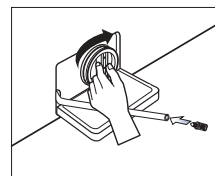

Fig.16
- Insert the coin-trap cover and screw tight. (Fig.16)